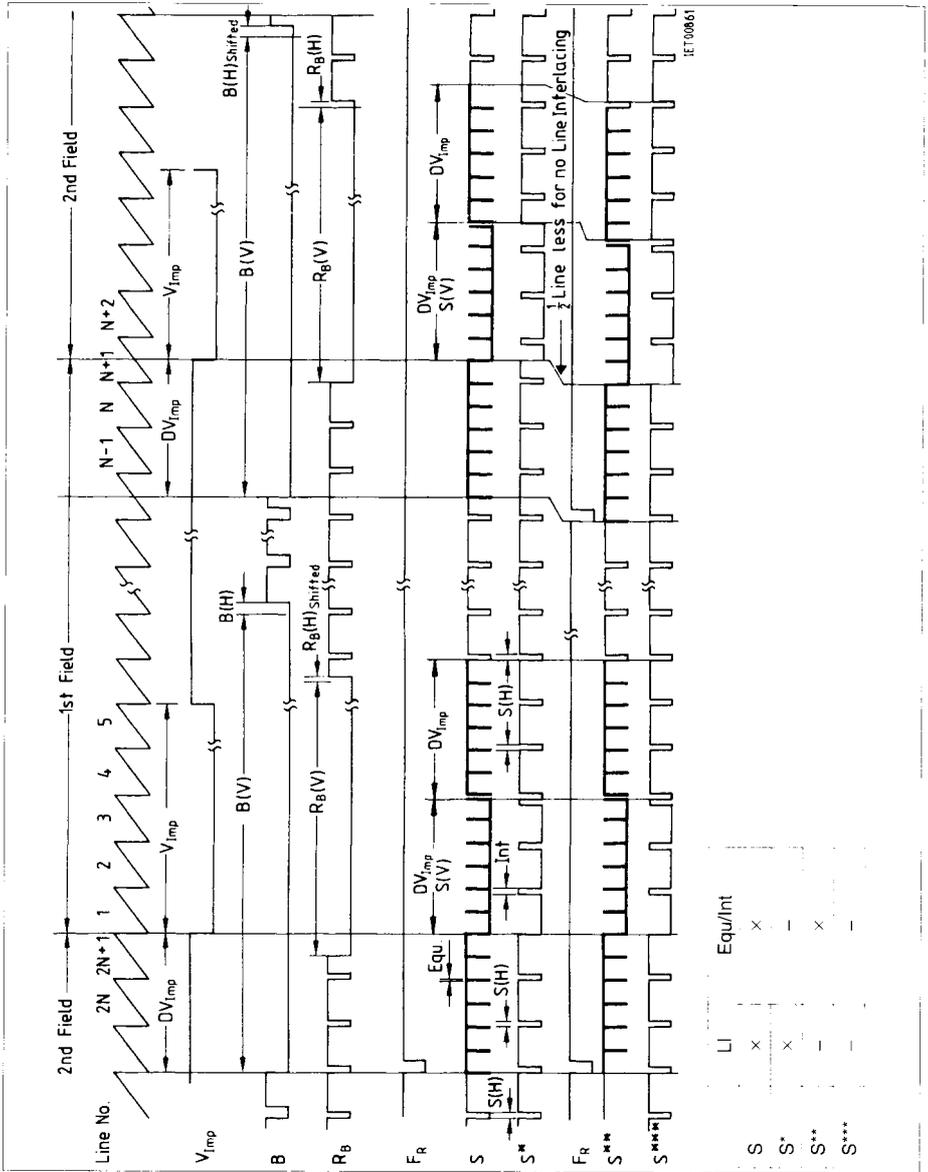

Figure 4
2) No Equ. & Int. in middle of line. Int. corresponds to S(H) shifted. See figures 4 and 5.